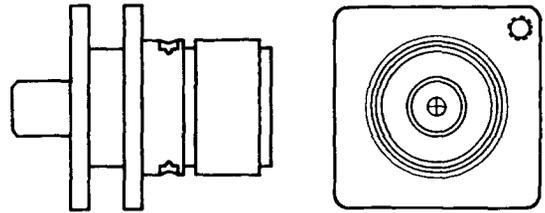

Fig. 5—KS-16919, L2 and L3, Coaxial Jack
2.05 KS-16919, L2 and L3: The KS-16919 jack (Fig. 5) is a coaxial jack intended for operation up to 3000 volts.